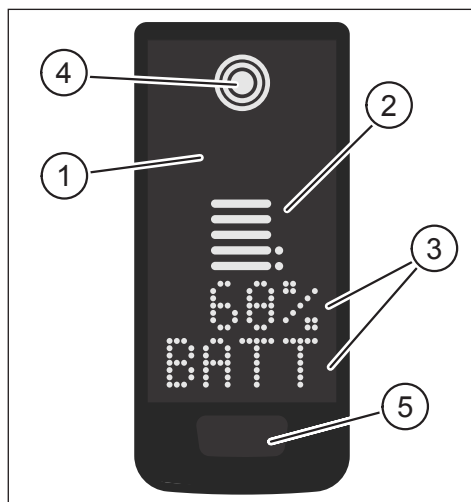
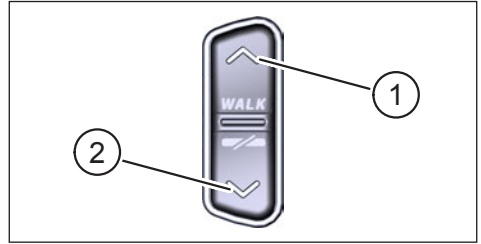

Fig. 1: Operation and indication components on Display
Fig. 2: Operation on the Remote
Pos. in Fig. 1	Description
Pos. in Fig. 2	Description
- ▶ Press and hold the button on the Display (pos. 5 in Fig. 1) and the DOWN button on the Remote (pos. 2 in Fig. 2) for at least 5 seconds.
- With a **double click** press on the button on the Display (pos. 5 in Fig. 1) you switch to the next screen view.
- Press the DOWN button on the Remote control (pos. 2 in Fig. 2).
- Press the button on the Display (pos. 5 in Fig. 1).